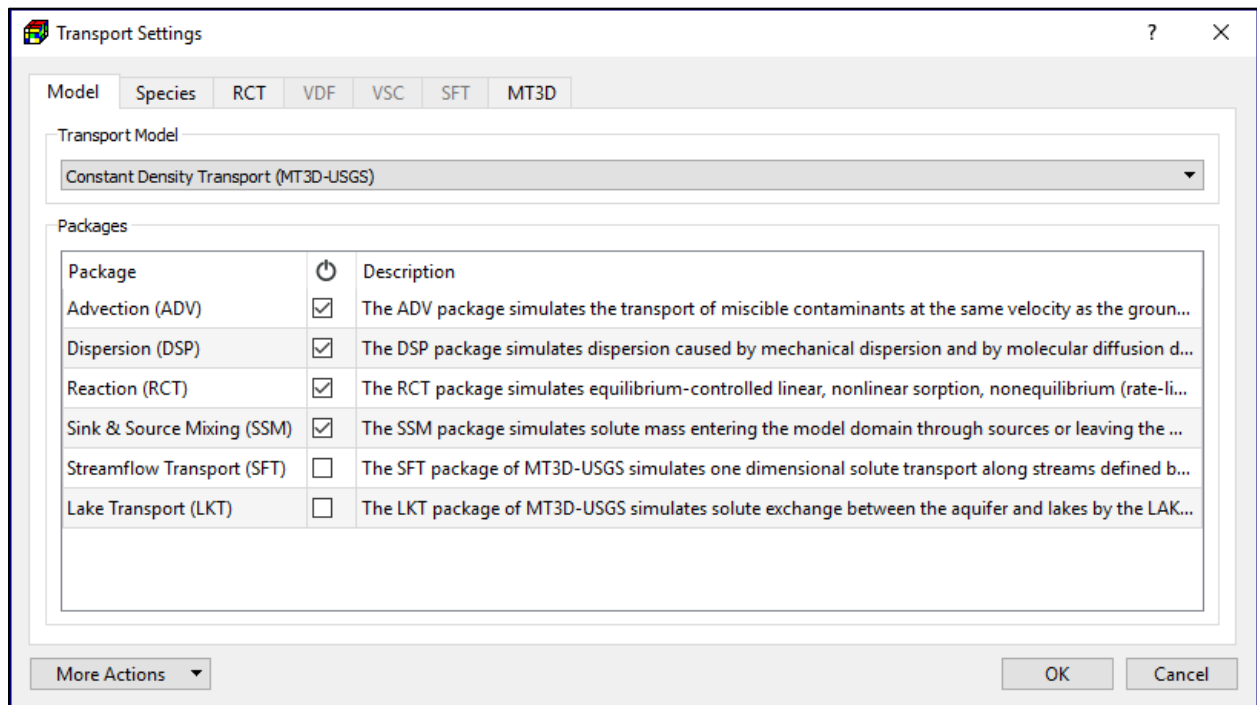

Figure 96. The Model tab of the Transport Settings dialog box
The first step to use MT3D or SEAWAT is to define the species, packages, and the reaction type in the Transport Settings dialog box (Figure 96). The features of this dialog box are detailed below.
2. **Model Tab** (Figure 96) defines the transport model and packages to be used in the simulation.